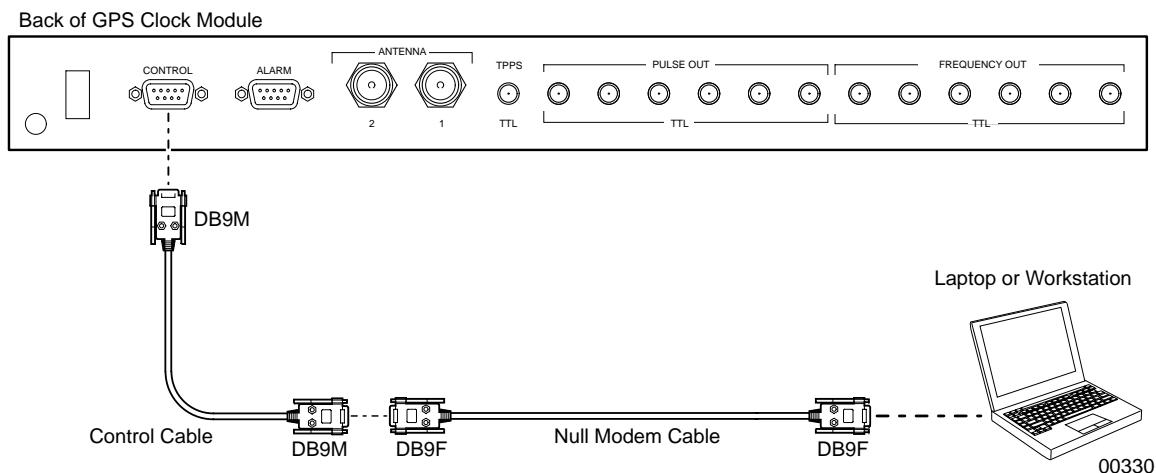

Figure 6.1 GPS Serial Interface Adapter
To configure the GPS clock module, you need to log in to the module over a serial connection. Figure 6.1 shows the wiring and connections for the custom adapter.
- 1 Connect a laptop to the GPS clock, as shown in Figure 6.1.